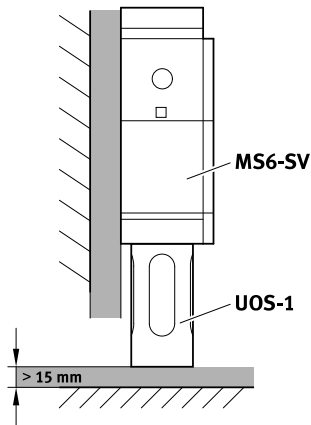

Fig. 7 Installation
- Observe minimum distance of 15 mm below the silencer → Fig.7.